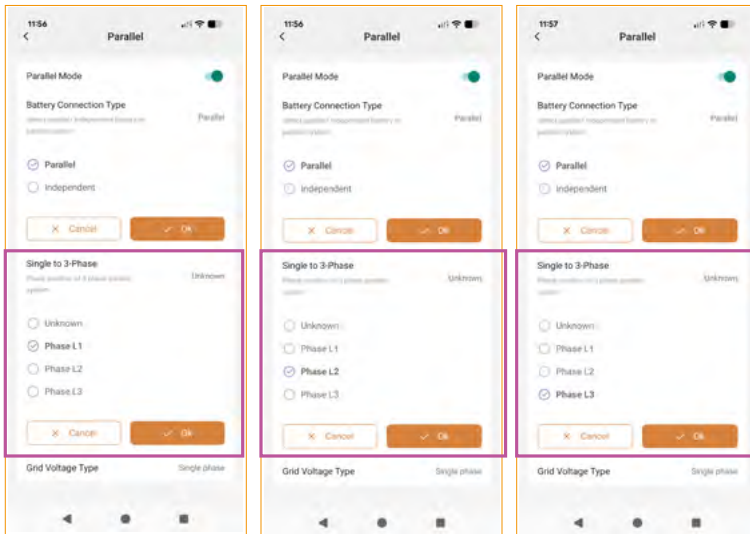

Figure 24. Left (a) - P1-Phase L1. Centre -(b) P2-Phase L2. Right -(c) P3-Phase L3
Step 4. Set the phase position accordingly: Go to Setting > Inverter > Parallel > Single to 3-Phase. Notice that all three inverters should be set in this step. See Figure 24, (a)-(c).